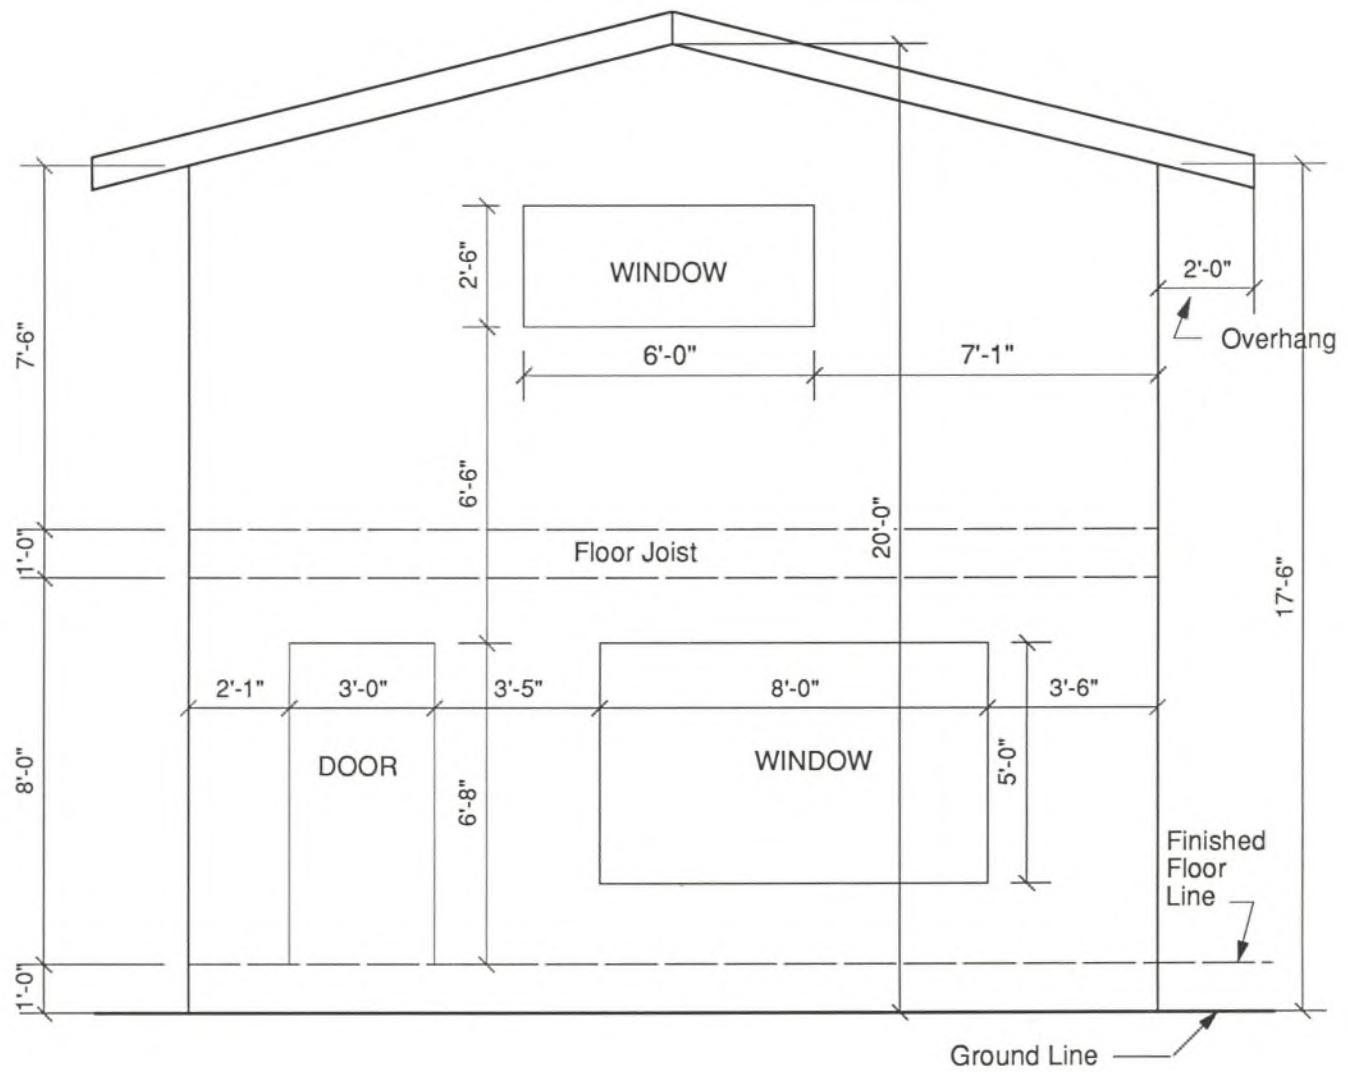

Fig. 29.1 Measuring a house.
5. Measure the thickness of the exterior wall as revealed in a window or a doorway. Do not include casing or molding thickness. (See Fig. 29.1).